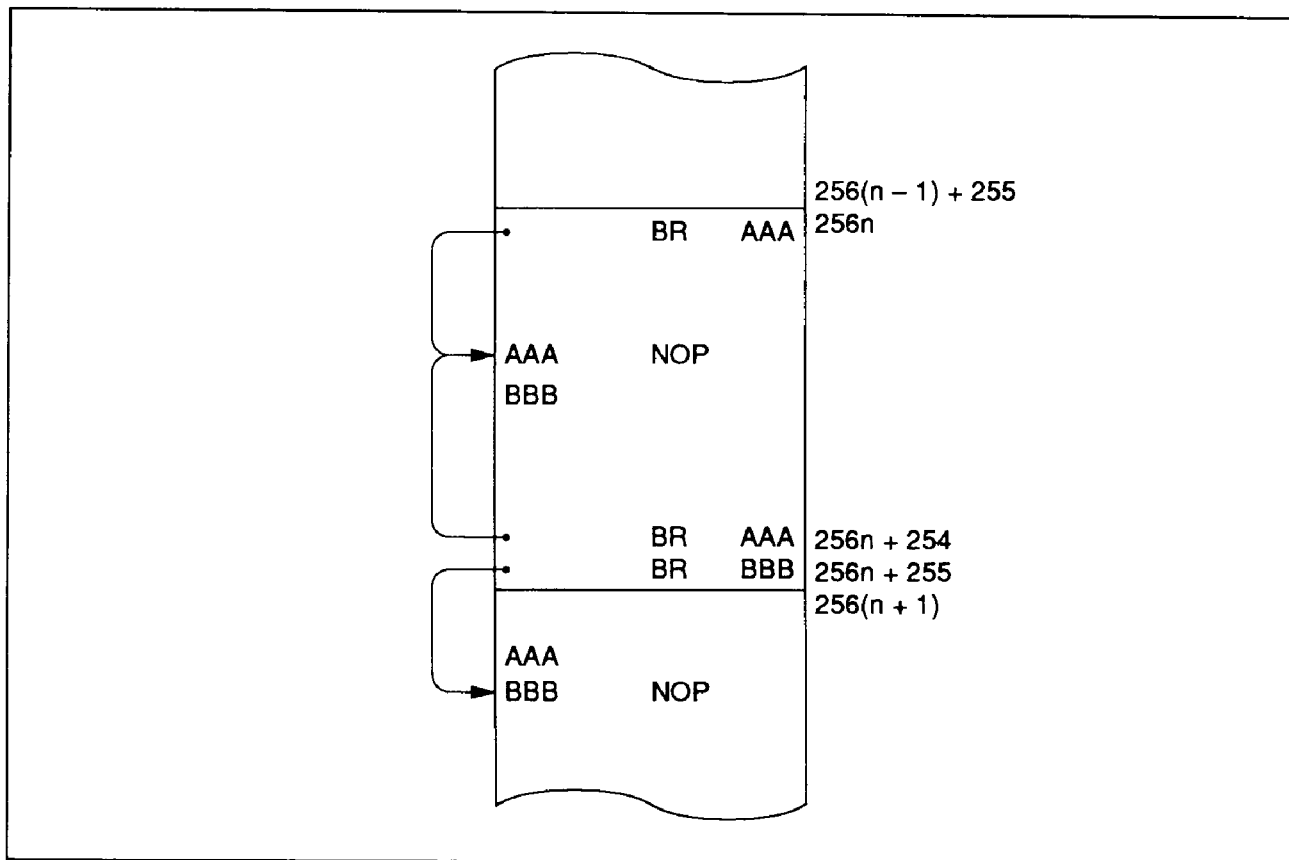

Figure 67 Branching when Branch Destination is on a Page Boundary
**Current Page Addressing Mode:** The MCU has 64 pages of ROM with 256 words per page. A program can branch to any address in the current page by executing the BR instruction. This instruction replaces the eight low-order bits of the program counter ( $PC_7-PC_0$ ) with eight-bit immediate data. If the BR instruction is on a page boundary (address  $256n + 255$ ), executing that instruction transmits the PC contents to the next physical page, as shown in figure 67. This means that the execution of the BR instruction on a page boundary will make the program branch to the next page.